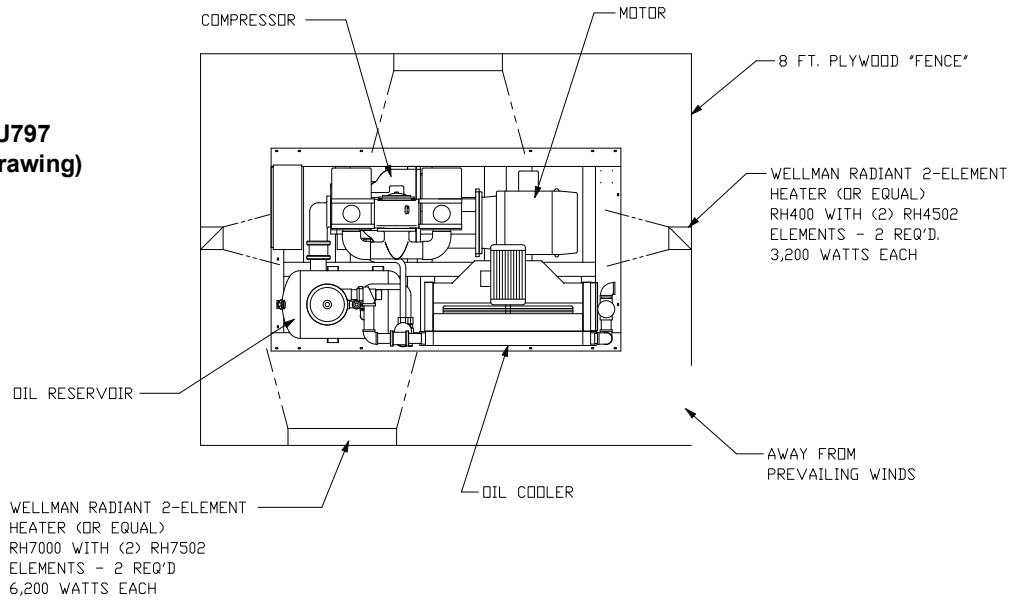

Figure 2-3 – COLD WEATHER INSTALLATION
INSTALLATION FOR COLD WEATHER OPERATION (Figure 2-3) - It is recommended that the unit be installed inside a shelter that will be heated to temperatures above freezing (32° F, 0° C). This will eliminate many of the problems associated with operating units in cold climates where freezing rain, drifting snow, freezing condensate and bitter cold temperatures are encountered.
3. Some means of providing heat during shutdown should be provided. There are various methods to accomplish this, but since openings are not provided for sump heaters, the use of radiant heaters is recommended. The heaters should be sized to provide at least a +10° F (-12° C) environment for coolers, motor and sump. Figure 2-3, page 16, shows how these might be located in a typical installation and sizes required.